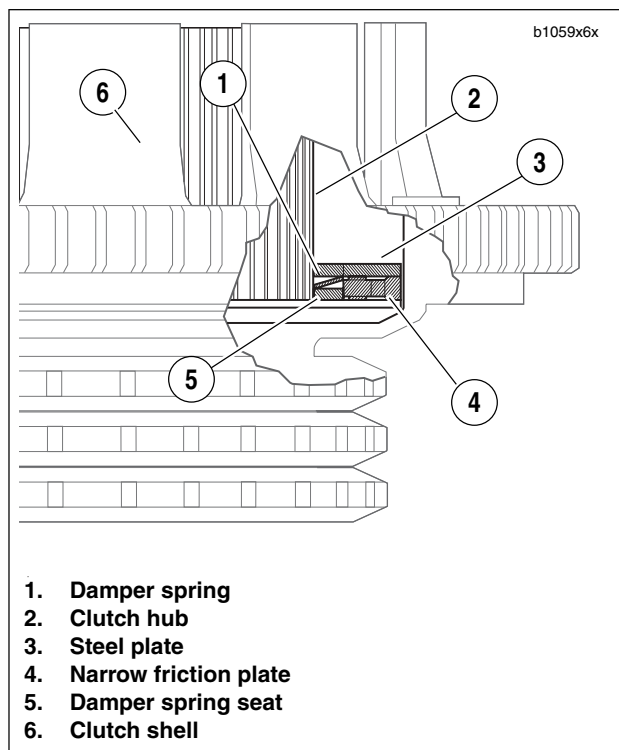

Figure 6-32. Clutch Pack Stack-Up (Cut-Away View)
3. See Figure 6-32. Install damper spring seat (5) on clutch hub so that it seats inboard of narrow friction plate (4).
4. Install damper spring (1) on clutch hub with the concave side up (facing opposite damper spring seat).